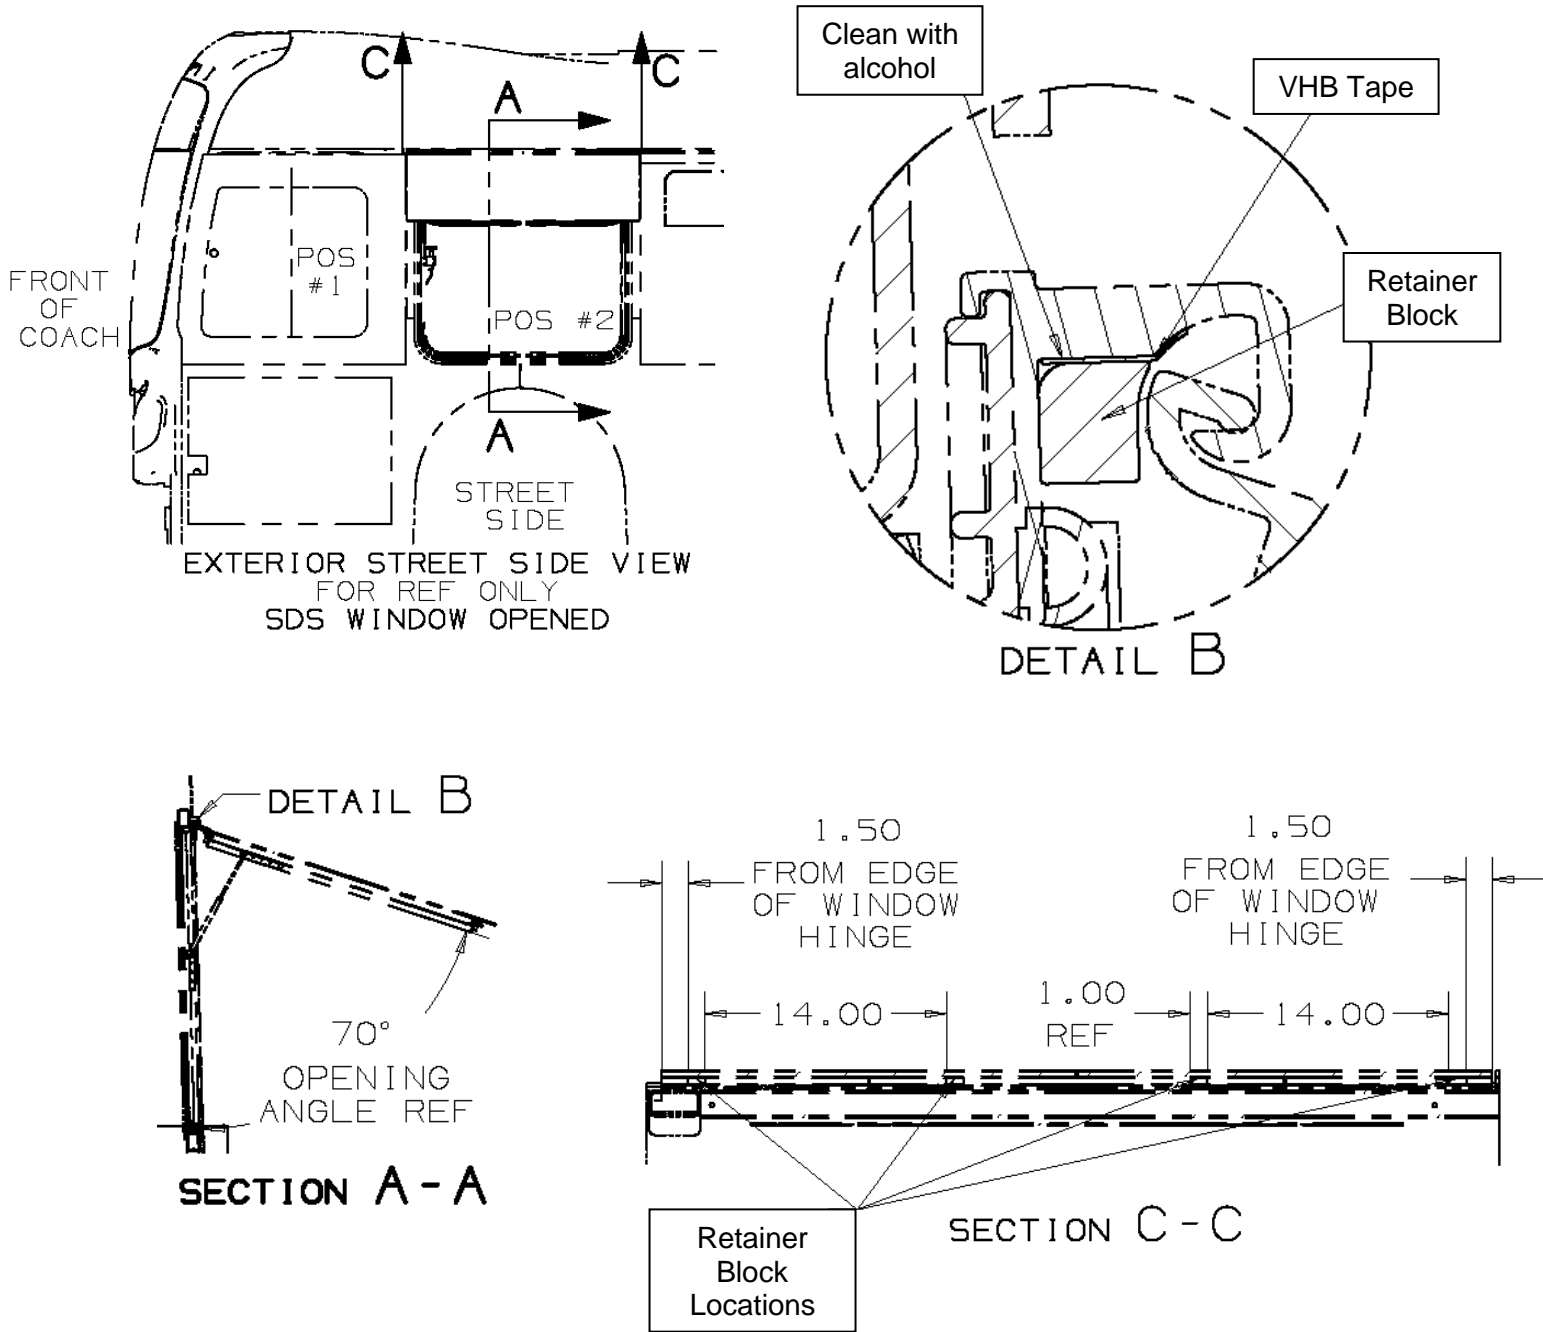

Figure 1: New retainer block locations
3. Using the dimensions in section C-C in Figure 1 below, measure and mark the locations of the four window retainer blocks found in supplied kit (NF PN 786930).
4. Apply a piece of the VHB tape supplied in kit (NF PN 786930) to the top of each of the four retainer blocks as shown in Detail B of Figure 1 and rotate them into the four marked locations on the window hinge. Orient the blocks as shown in Detail B.